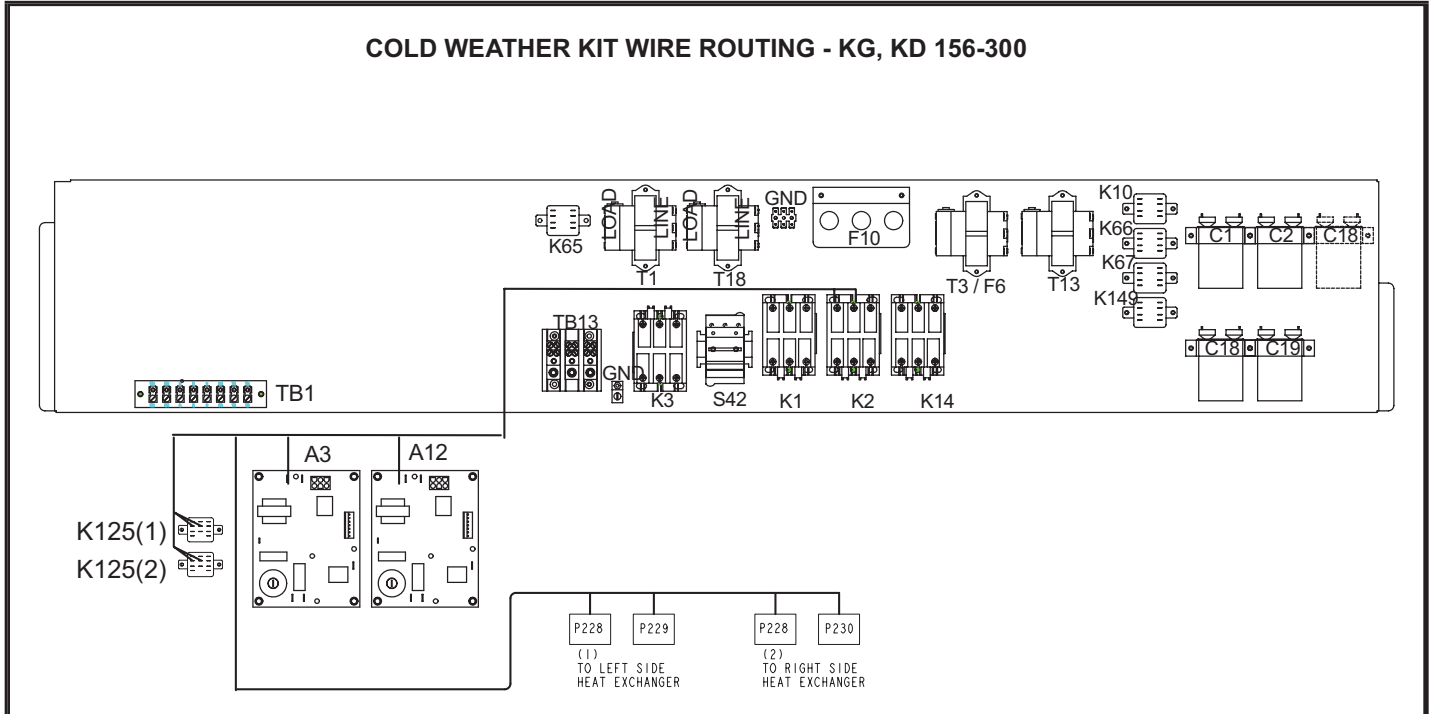

FIGURE 17
- 3 - Install both K125 relays in control area above compressors. Secure with #8 screws. See figure 17.